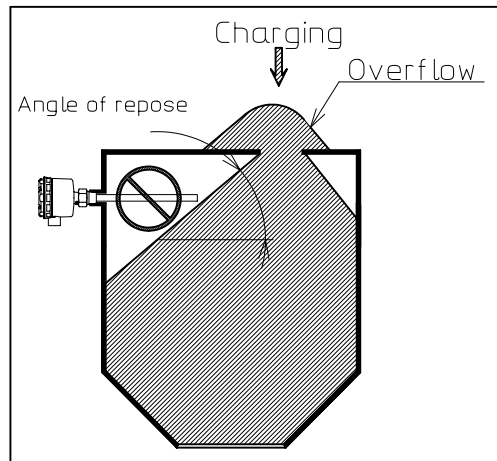

Fig.6-2
(1) Pay attention to the angle of repose. (*) Otherwise, the sensor may cause malfunction. Refer to Figure 6-2.